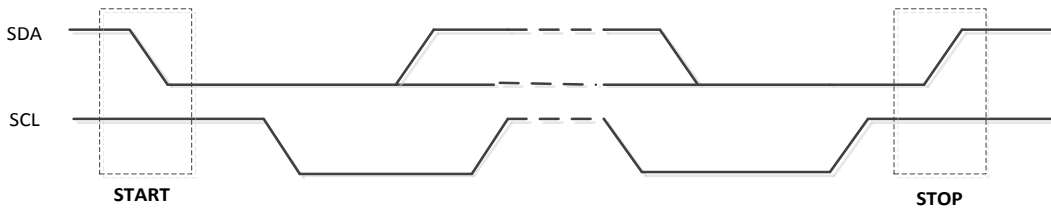

Figure 15-2 START and STOP conditions
All transactions begin with a START (S) and terminated by a STOP (P). A high to low transition on the SDA line while SCL is high defines a START condition. A low to high transition on the SDA line while SCL is high defines a STOP condition (see Figure 15-2).